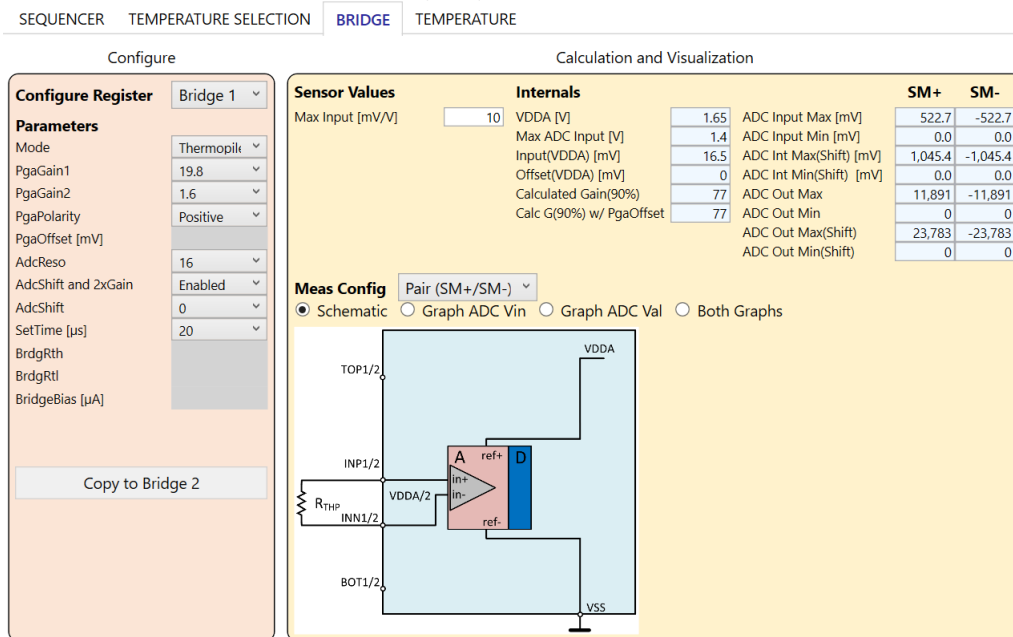

Figure 41. Thermopile Mode
- Thermopile: The device acquires the voltage signal generated by a thermopile (Figure 41).